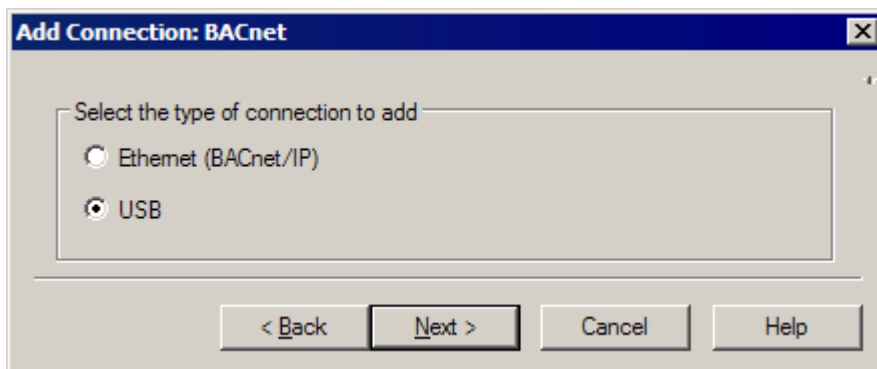

Figure 5-3: Select USB
4. Select USB, then select Next (Figure 5-3).